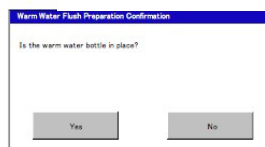

Figure 4-R
- The Warm Water Flush Preparation Confirmation screen displays (Figure 4-R).